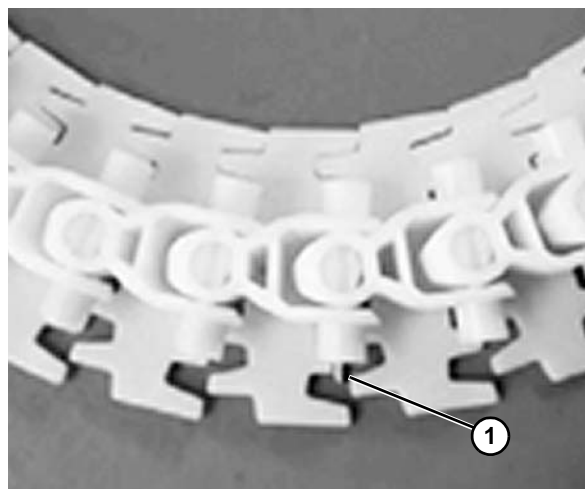

Figure 48
4. Check that the chain is flexible in the joint and that the pin does not stick out or go through the other side (**Figure 48, item 1**).